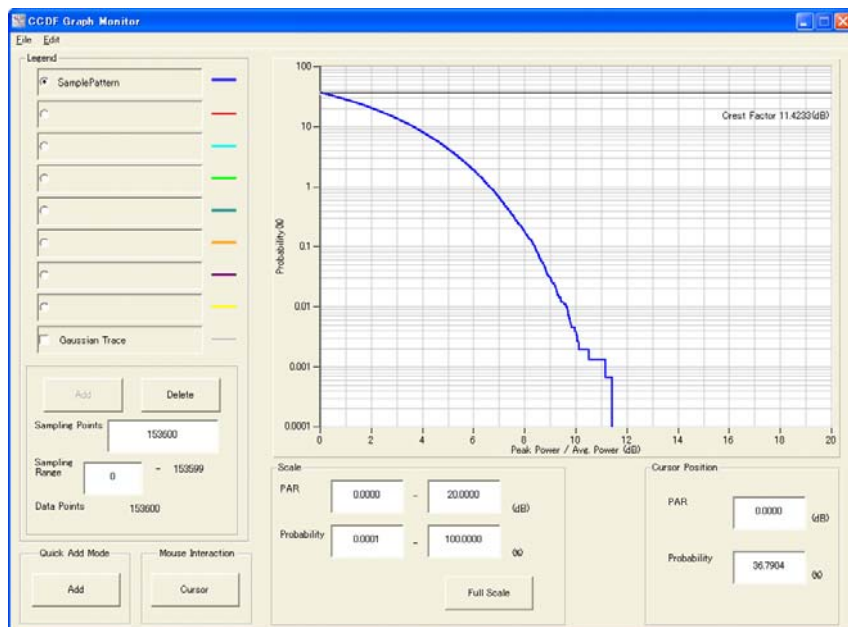

Figure 3.6-1 CCDF Graph Monitor Screen
2. Select **CCDF** from the **Simulation** menu or click the  tool button. The CCDF Graph Monitor screen shown in Figure 3.6-1 is displayed with the trace of the generated waveform pattern.